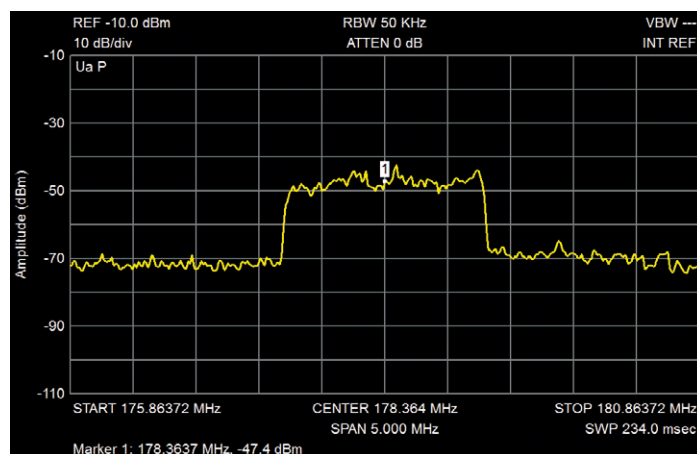

Figure 1. Image of the DAB+ spectrum at 178 MHz, Channel 5c.
If you wish to use an off-the-shelf antenna, you must first establish whether it will receive signals at all in the DAB+ region; this is because some active antennas have a built-in lowpass filter. The simplest way to find out is to connect it to a spectrum analyzer (**Figure 1**), otherwise test it with a DAB+ receiver. As is well known, the VHF (FM) band covers from 88 to 108 MHz, whilst DAB in Band III goes from 174 up to 230 MHz. L-Band in the region of 1.5 GHz (used for DAB in some territories) is irrelevant for broadcast reception in vehicles.